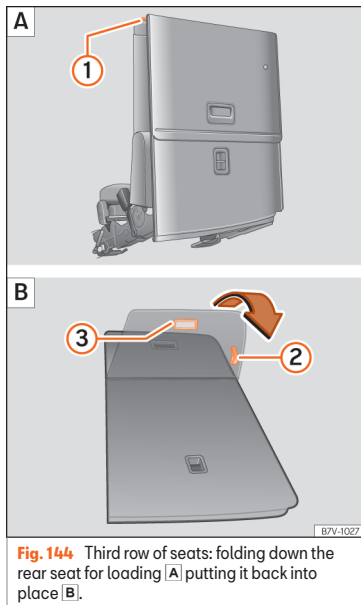

Fig. 144 Third row of seats: folding down the rear seat for loading [A] putting it back into place [B].
- If necessary, pull on the lever » Fig. 144 ❷ to move the seat to the required position.
- When the seat is folded down, no adults or children should travel in it » ❸.
- Remove objects from the footwell in front of and behind the rear seat »» ❶.
- Pull lever »» Fig. 144 ❶ back and fold the seat backrest forwards. The rear seat folds forward »» ⚠ and the cushion also moves forward.
- Pull on the handle »» Fig. 144 ❷ to put the seat tray back in position.
- Pull the handle »» Fig. 144 ❸. The entire seat folds backwards.